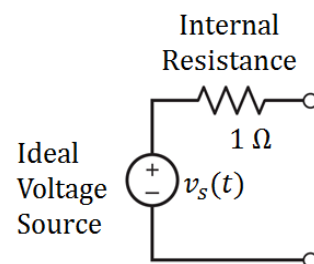

Fig. 3. Equivalent circuit for the practical voltage source
5. Draw an equivalent circuit of the dc voltage supply as shown in Fig. 3. The internal resistance of PST-3202 is less than $1\ \Omega$ therefore in most cases you can ignore it. Use the correct resistor value or a correct estimate.
17. Read the specifications of the waveform generator either on the web or on iLearn and draw its equivalent circuit as in Fig. 3. The term "impedance" is similar to resistance for ac signals. Record the limitations of waveform generator for its sinewave function (frequency and amplitude).